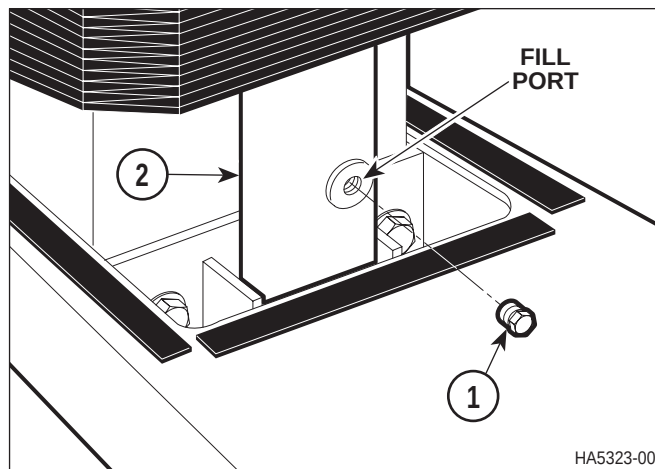

Figure 4-4. Adding Oil To Hydraulic System
- (1) Depress foot pedal as far as it will go to lower the stretcher to its lowest position.
- (2) Raise the bellows for access (Refer to para 4.3).
- (3) Remove plug (1, Figure 4-4) from fill port of elevation cylinder (2).